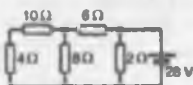

Figure 13.50
- 4 In the network shown in Fig. 13.50, the battery has negligible internal resistance. Find, using Thévenin's theorem, the current flowing in the 4Ω resistor. [0.918 A]